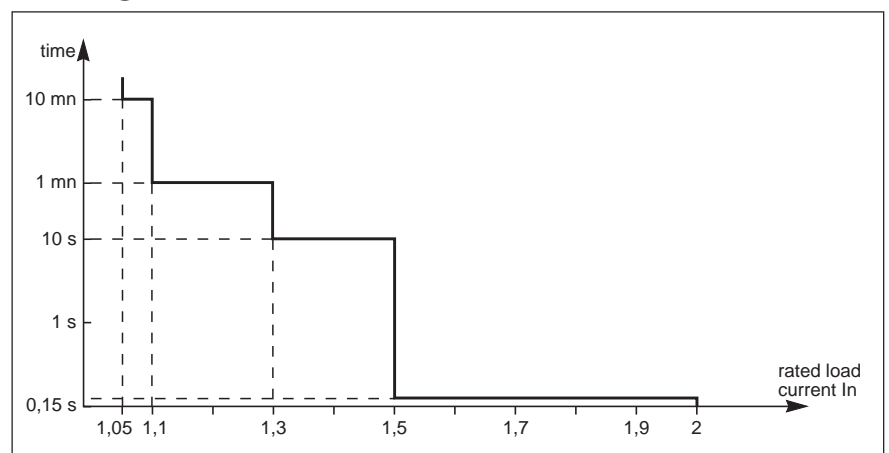
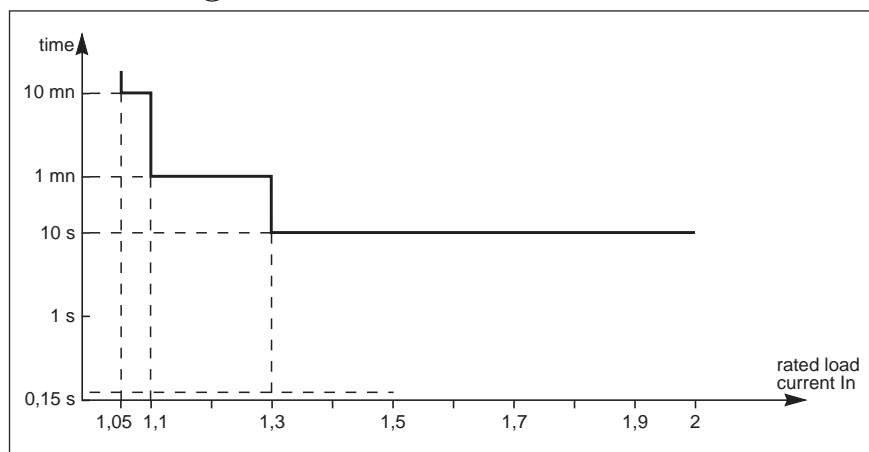

Fig. 21
Fig. 22
- the load is supplied by AC input power via the "static bypass" (3),
- return to the inverter (7) is automatic, following elimination of the overload;
- the inverter can handle a minor overload for a given duration depending on the size of the overload. See figure 21;
- the buzzer (17) sounds,
- the orange "fault" light (19) goes on,
- the inverter (7) shuts down at the end of its corresponding overload time,
- the green "load protected" light (21) goes off,
- the red "load not protected" light (18) goes on.
- If the overload continues during operation via the "static bypass" (3), the supply of power to the load is interrupted after a specified time. See figure 22.
Minor overloads can be supplied by the inverter for a duration defined in figure 21 for an ambient temperature of less than 30°C . Above this temperature, a derating coefficient k must be applied to the rated current and therefore to the overload curve in figure 21: